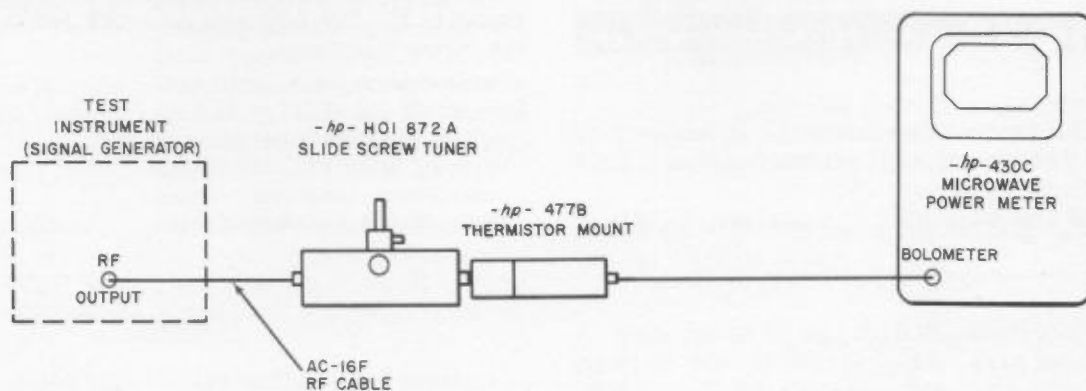

Figure 10-2. Signal Generator Attenuator Calibration
- 1) Connect the equipment as shown in Figure 10-2.